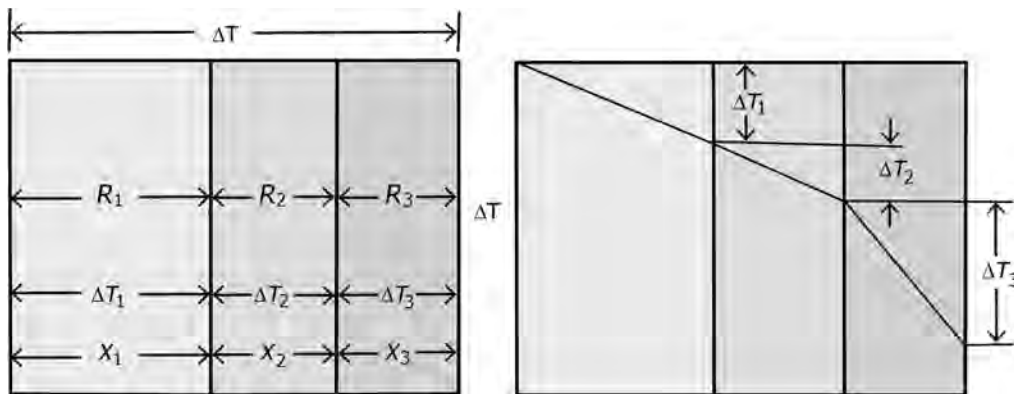

FIGURE 8.9 Multilayer slab.
- Multilayer flat slab: One-dimensional heat conduction—Figure 8.9 shows a series of three flat slabs in thermal contact with each other.